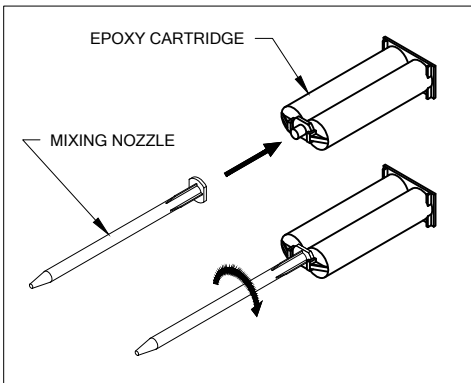

FIGURE 6.
- ONCE TESTED, FILL THE PILOT HOLE WITH ADHESIVE (REFERENCE CAULKING GUN CONVERSION KIT FIGURES 6 & 7) AND PERMANENTLY ATTACH ALUMINUM SPLINE. CAUTION: SERRATED LOCK WASHER MUST BE SECURELY TIGHTENED AND EMBEDDED INTO ALUMINUM SPLINE TO PREVENT ATTACHED END CAP FROM ROTATING.
EPOXY CARTRIDGE AND MIXING NOZZLE. REFER TO FIGURE 6.